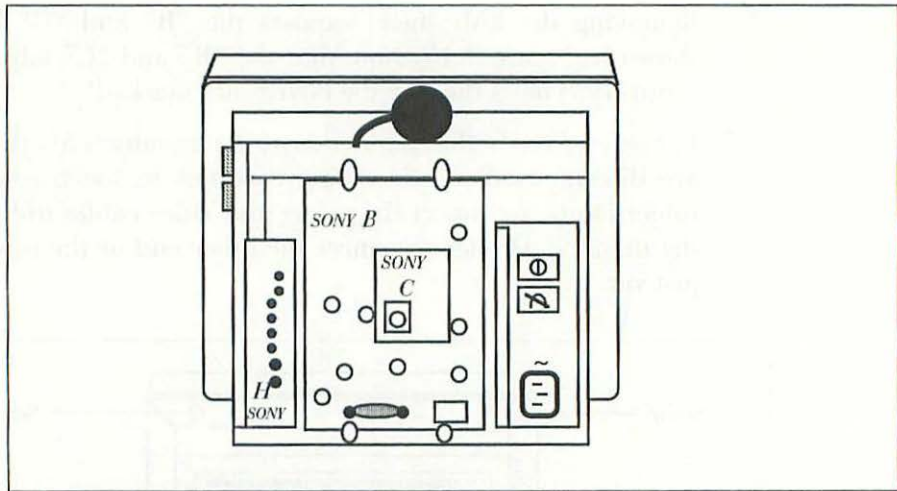

Figure 3-19 Removing the EMI shield exposes the “B” and “C” boards.
Removing the EMI shield exposes the “B” and “C” boards as shown in Figure 3-19. Note that the “B” and “C” labels are not arbitrary. That’s the way the boards are marked!
15. Observe the angle of the dot axis. Now turn the H-STAT control (but not the V-TWIST control) fully clockwise. The clockwise dot pattern should be a mirror image of the counterclockwise pattern. If the two angles are not mirror images, as shown in Figure 3-29, locate the "C" board shown in Figures 3-19 and 3-20. Insert the screwdriver end of a plastic TV alignment tool (not a metal screwdriver) into RV703, the H.STAT control on the "C" board, and turn it until the angles are the same.